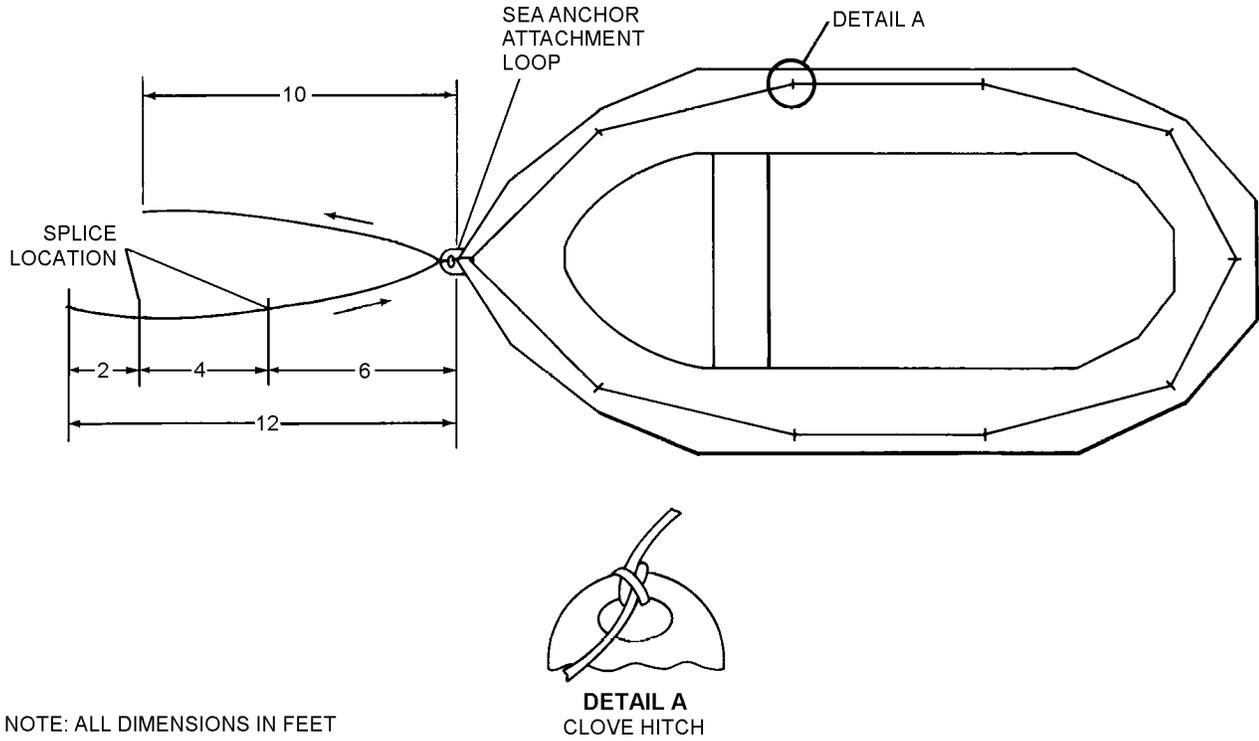

Figure 10-13. Routing of Retaining Line to Liferaft (LRU-13/A)
j. (LRU-13/A) Remove lifeline and original line (not required for SAR Kit liferafts). Pass one end of the 100-foot retaining line through sea anchor attachment loop until 12 feet remain. Secure line to sea anchor with a clove hitch. Continue routing remaining length of line loosely around perimeter of liferaft through each lifeline attachment loop and back through sea anchor attachment loop. Line shall be secured at each lifeline loop with a clove hitch (figure 10-13).